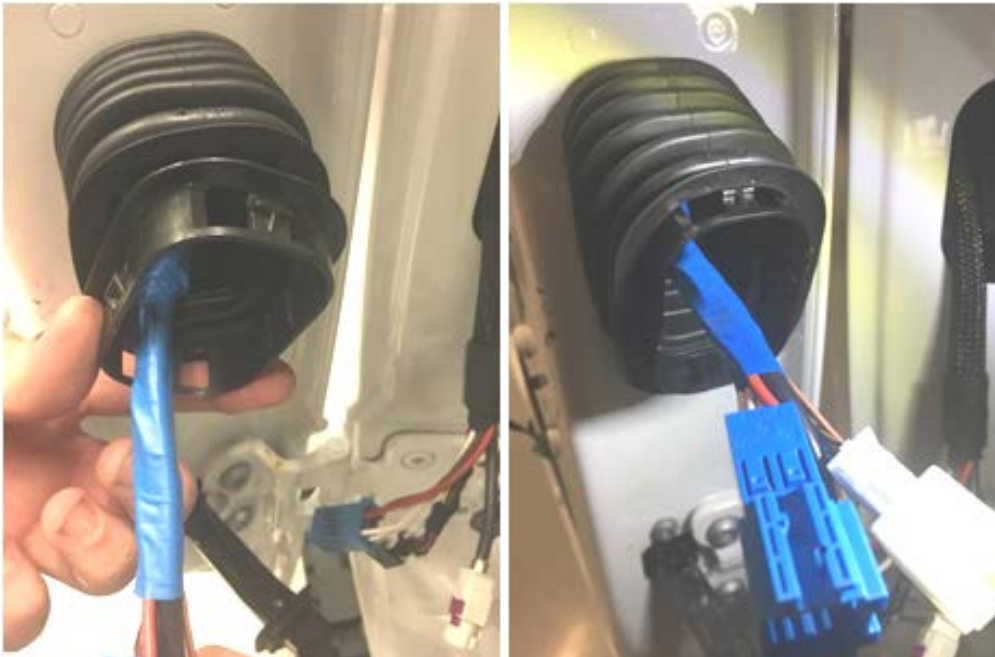

Figure 8
4. Slip the deburred retaining frame into the grommet. **(Figure 8)**